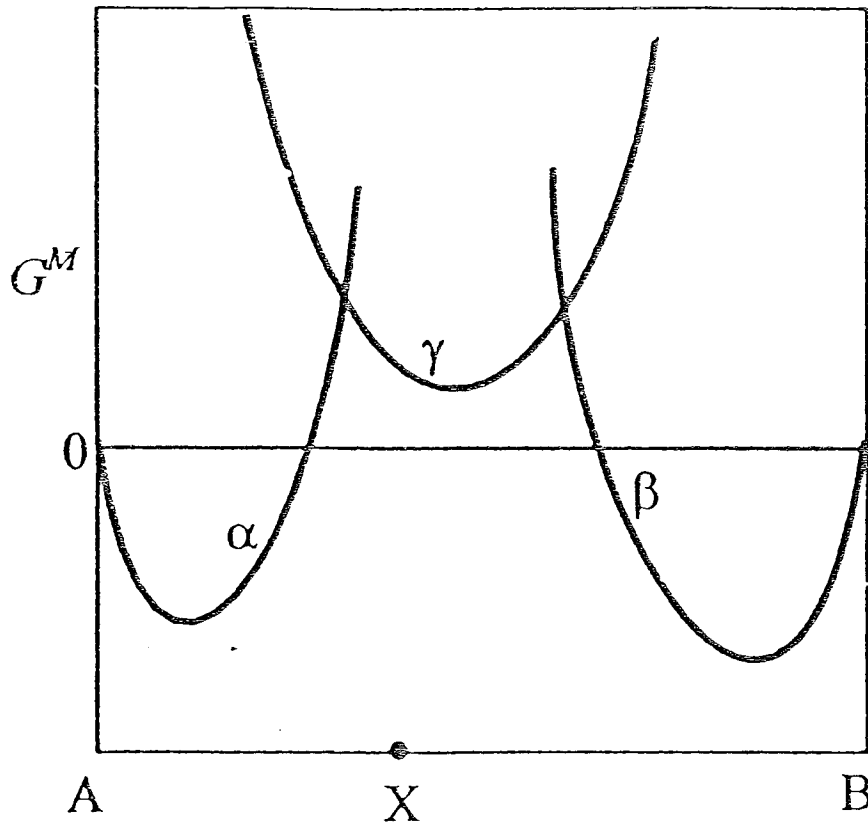

Figure 1
1. Shown in Figure 1 below is the free energy of mixing versus composition of the A-B binary system at the temperature T and the pressure P. The diagram shows two terminal phases α and β , and one intermediate phase γ . If the overall composition of the system is given by point X shown in the diagram, find the stable equilibrium phase(s) at T and P.